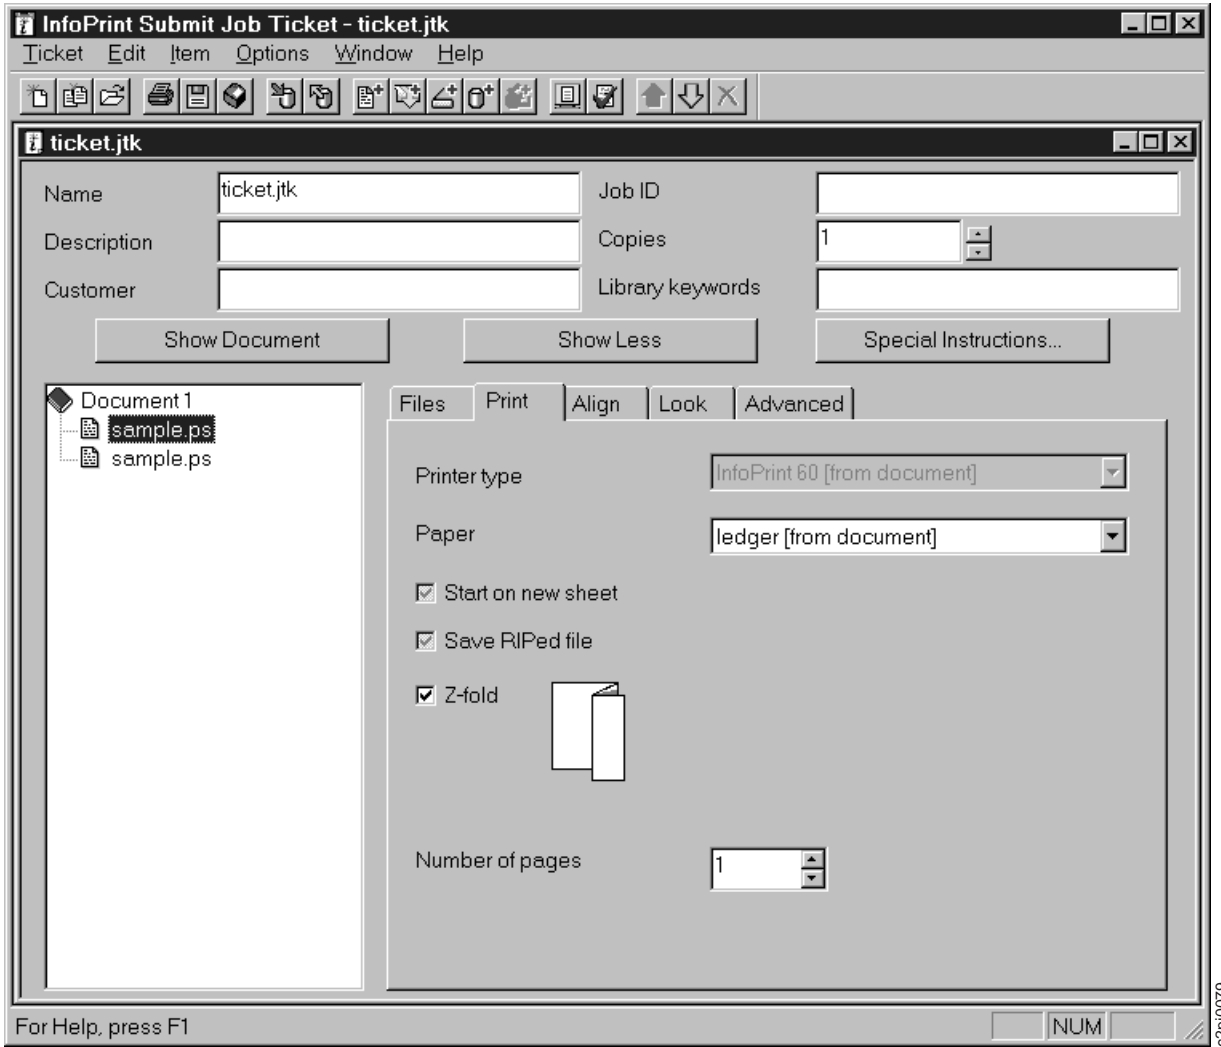

Figure 44. Z-Fold 2-UP Sheets - Print Tab
4. Select the Print tab. You see Z-Fold 2-UP Sheets - Print Tab (Figure 44 on page 47).